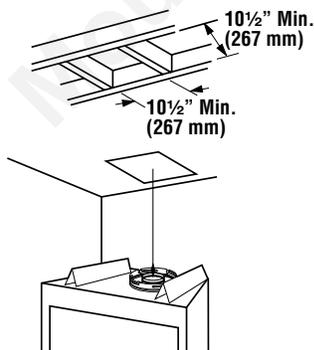

Figure 16
A. Frame ceiling opening - Use a plumb line from the ceiling above the appliance to locate center of the vertical run. Cut and/or frame an opening, 10 1/2" x 10 1/2" (267mm x 267mm) inside dimensions, about this center mark (**Figure 16**).